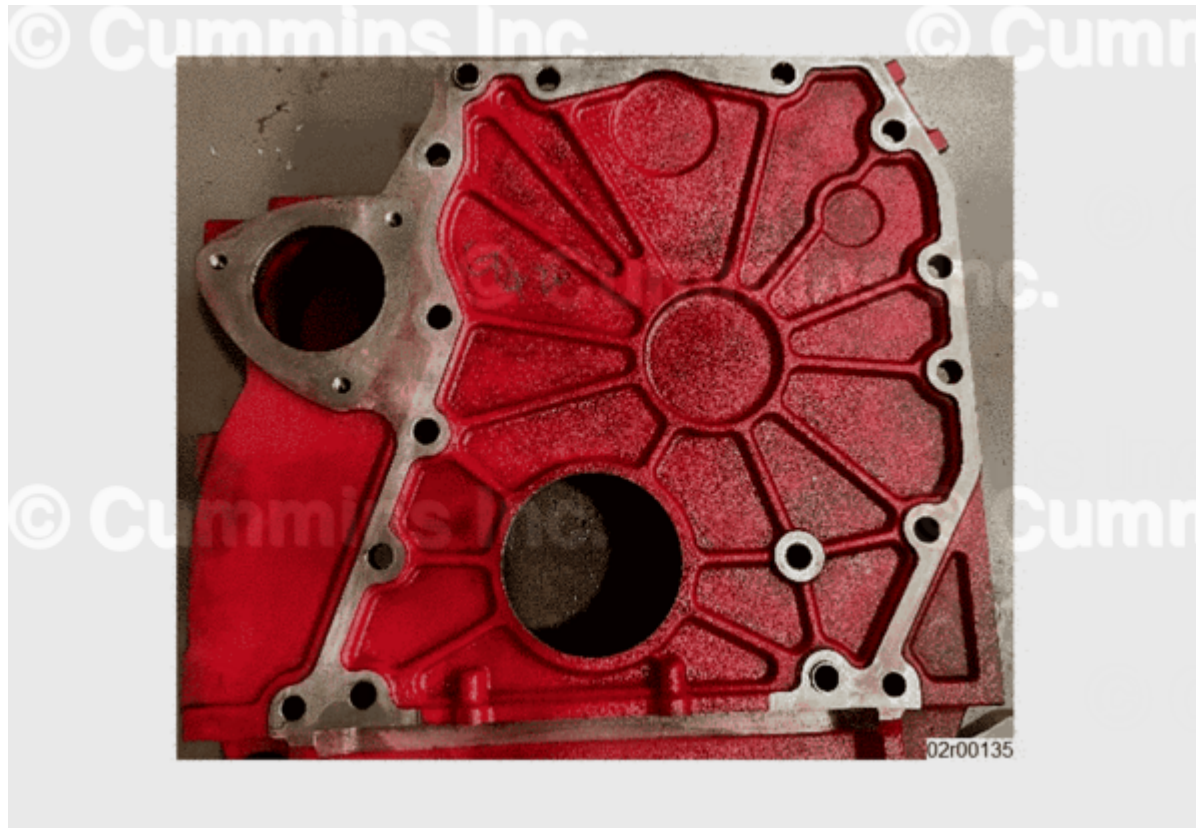

Figure 4, Flywheel Housing After Cleaning.
- Use Contact Cleaner, Part Number 3824510, or equivalent and Abrasive Hand Pad, Part Number 3823258, to thoroughly clean the flywheel housing and gear housing mating surfaces. These surfaces **must** be clean of oil and debris, see Figure 4.